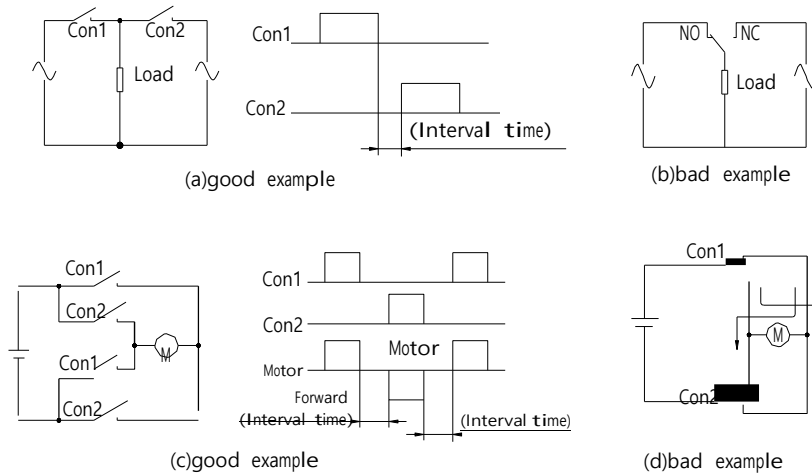

Figure 4
In the electrical circuit, the following points should be considered (seen in the figure 4)
the contacts results in the short circuit. Please do not adopt the circuit shown in figure 4(b). The circuit shown in figure 4(a) is suggestion to use and the certain interval can be set in the operation between con 1 and con 2.
(2) It should be considered that the over current should not be generated to make the circuit overload or burn when short circuit is caused by contact welding and error operation.
(3) Care should be taken that the two pairs of switching contacts are not used to build to the forward circuit and the reverse circuit, as shown in figure 4(d). Suggest that the circuit shown in Figure in 4(c) is applied and the certain interval is set in the operation between con 1 and con 2.